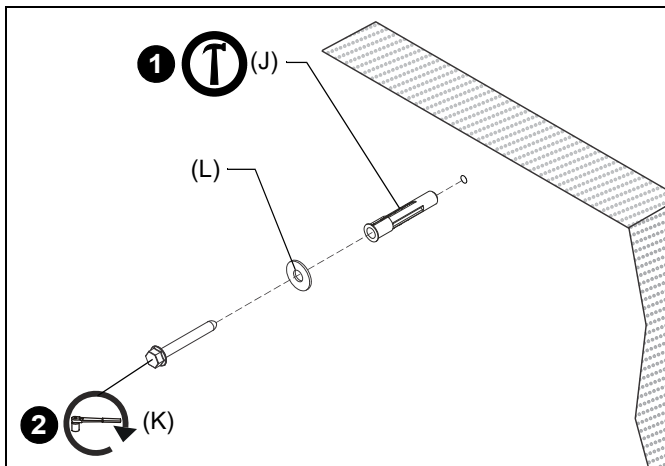

Figure 29
1. Install one UX10X60R anchor (J) into each pilot hole using a hammer, making sure that the anchor is flush with the wall. (See Figure 29)
2. Use one 5/16" x 2-1/2" hex flange head lag bolt (K) and one 5/16" washer (L) through product into each anchor in wall. (See Figure 29)